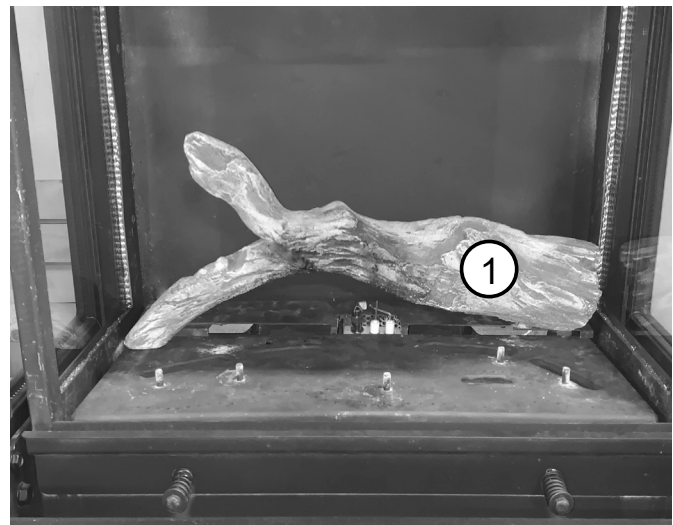

Figure 11.1. Set the #1 Rear Log on the rear pins, one on the Burner and one on the Burner Skirt.
1. **Rear Log:** Engage the holes in the underside of Rear Log #1 with two pins, one on the burner base and one on the burner skirt. Fig 11.1